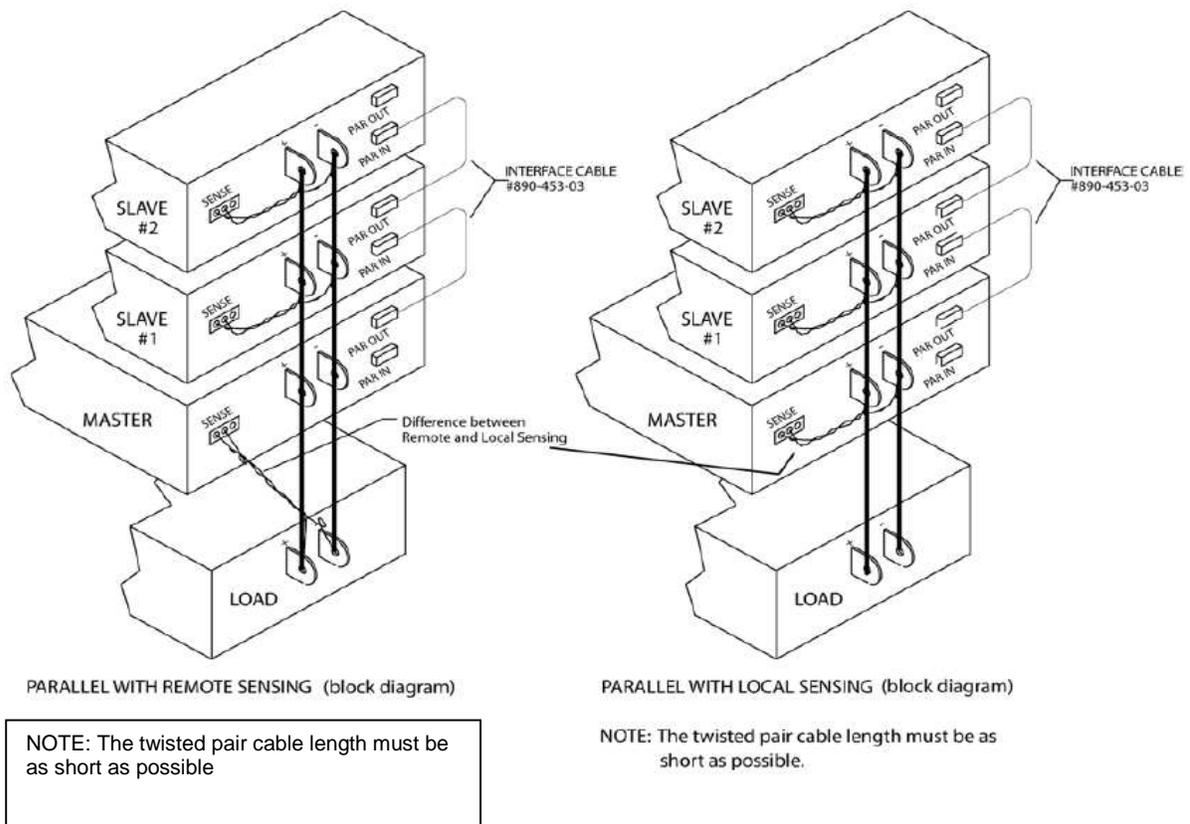

FIGURE 3.12 PARALLEL AND REMOTE/LOCAL SENSE CONNECTIONS
In order to connect up to five power supplies in parallel, use a “Master/Slave” daisy-chain wiring configuration as follows (refer to Figure 3.12: (Note that there are two separate 9-pin connectors on the upper left rear panel of each power supply, marked “PAR OUT” and “PAR IN”).
6. Referring to Figure 3.12, connect twisted pair cables as follows: